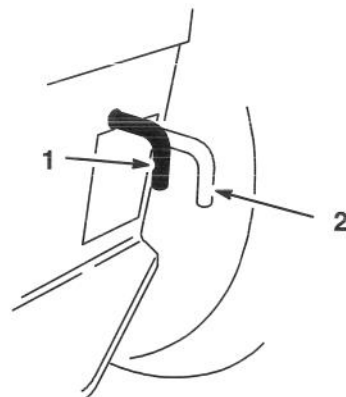

Figure 14
2. Move the drive control rod to the "PUSH" position. This disengages the drive system and allows the wheels to turn freely (Fig. 14).
1. Apply the brake, this moves the drive control rod to "OPERATE" and engages the drive system, or move the drive control rod to the "OPERATE" position (Fig. 14).